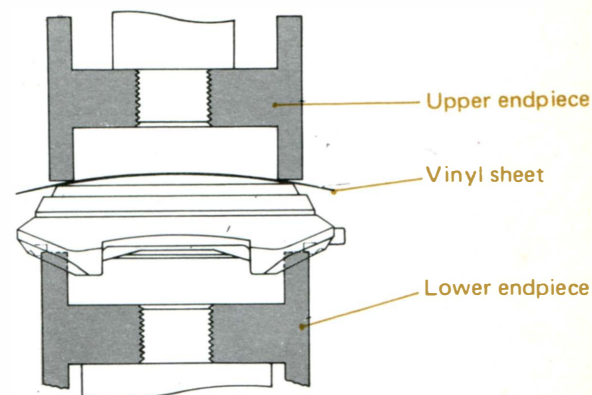

Fig. 8
- a. Set an upper endpiece and a lower endpiece of the sizes as shown in the Fig. 8.